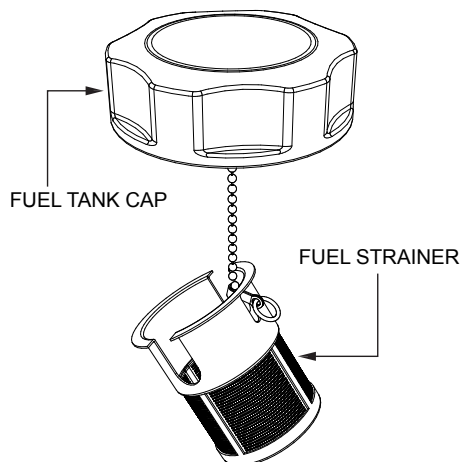

Figure 27. Fuel Strainer
3. Next, remove, inspect and clean the fuel strainer (Figure 27) with solvent.